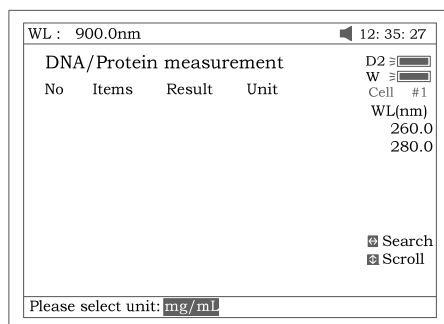

Fig 64
- Press [**F3**] to select the unit of concentration (Fig 64).